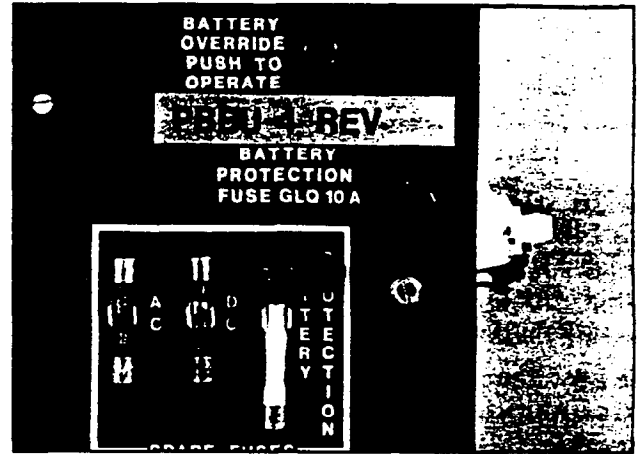

FIGURE 14—MPSA CONTROL PANEL
02.23 Slip the PBBU fuse holder and battery override button through their respective ports in the control panel (Figure 14). The PBBU mounting bracket should be flush against the rear of the control panel. The harness should flow around the PBBU PCB, with no wires beneath it.
02.28 Depress the battery override button (Figure 14). If it catches and stays in, press it again to cause it to release and protrude out of the control panel. The button must be out for the MPSA to operate normally.
02.32 The "PBBU-4 REV" decal must be placed on the control panel of the MPSA. Remove the decal from the kit, peel the backing off, and place it on the control panel (Figure 14).